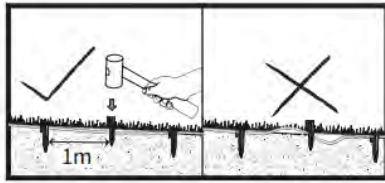

Fig.3-3-4
- Secure the boundary wire into the ground with supplied pegs. Keep the boundary wire straight and tight. It is recommended that each peg should be placed 1m apart (can be adjusted according to the specific lawn) (Fig.3-3-4). **Don't bury the boundary more than 2cm underneath the ground, this will impact the signal.**